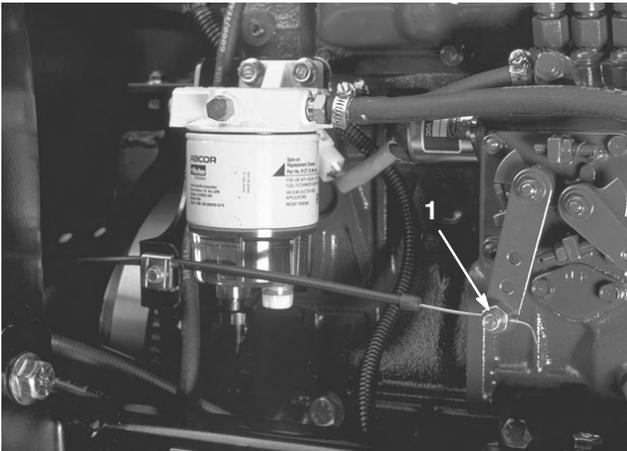

Figure 49
2. Loosen the throttle cable connector on the injection pump lever arm (Fig. 49).